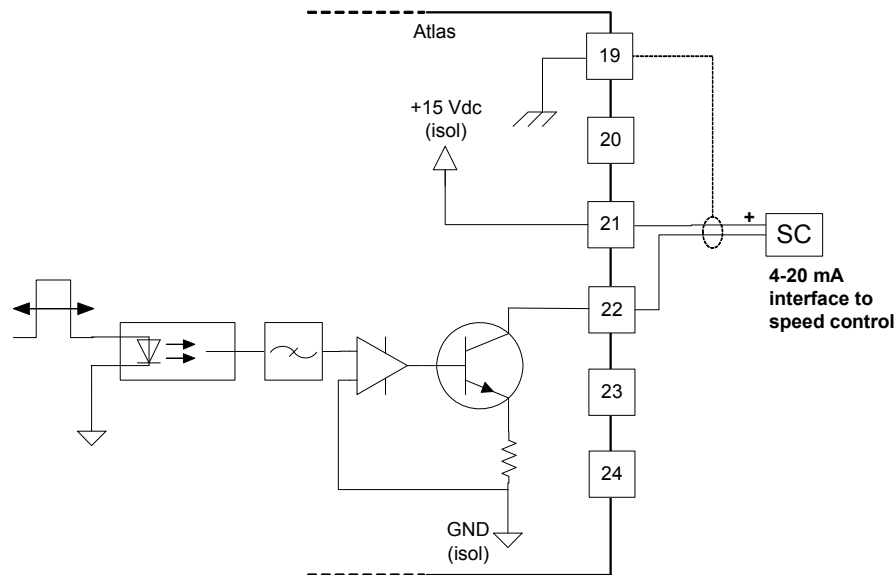

Figure 8-11. Wiring Example—Speed Bias Output Interface
- Refer to Figures 8-11 and 8-12 for Speed Bias Output wiring.